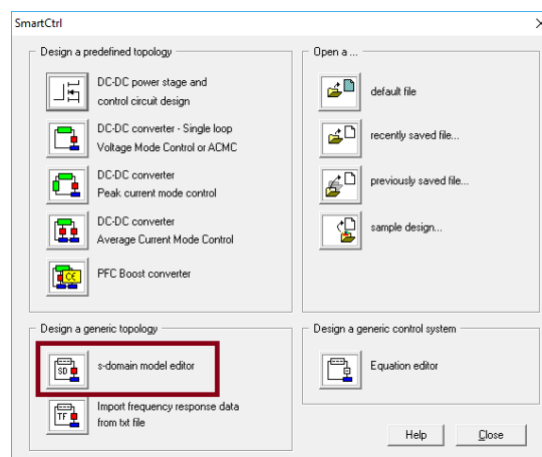
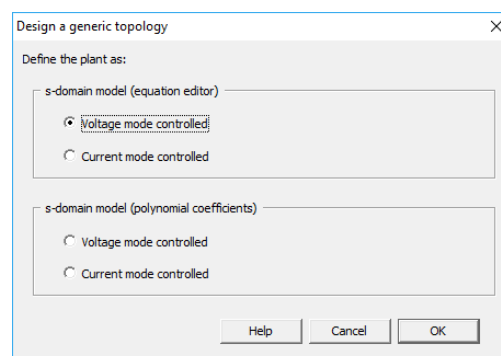

Figure 31: s-domain model editor
Figure 32: s-domain model editor options
5. Close SmartCtrl project and open a new SmartCtrl design selecting s-domain model editor option in voltage mode. See Figure 31 and Figure 32.